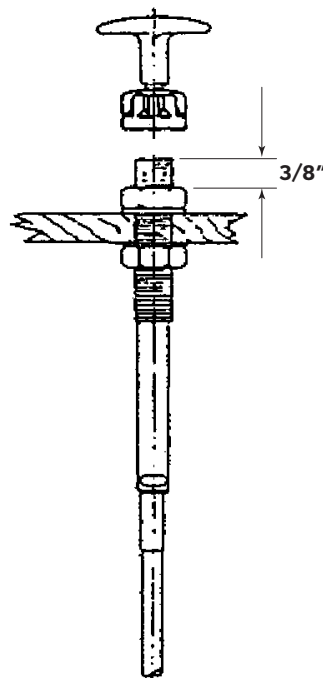
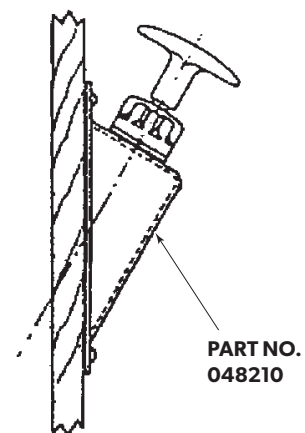

Figure 1.
Figure 2.
The Model DC mounts on a control panel (figure 1) or on the side of a console (figure 2) when installed with mount part number 048210.
2. Thread on nut (item 1) and lockwasher (item 2) to dimension shown in figure 1 and install through hole in panel.
4. Remove locknut (C) from the end of 3300/33C cable. Remove seals (A and B) from cable.
6. Line up slot in cable hub with holes in tube assembly and insert cotter pin (item 3). Bend cotter pin to lock.
7. Place tapered nylon collet (item 5), small end first, over cable end.
8. Insert knurled cap (item 6) over cable end and thread cap onto tube assembly.
10. Thread knob (item 7) onto cable end until snug. Tighten locknut (C) against knob.